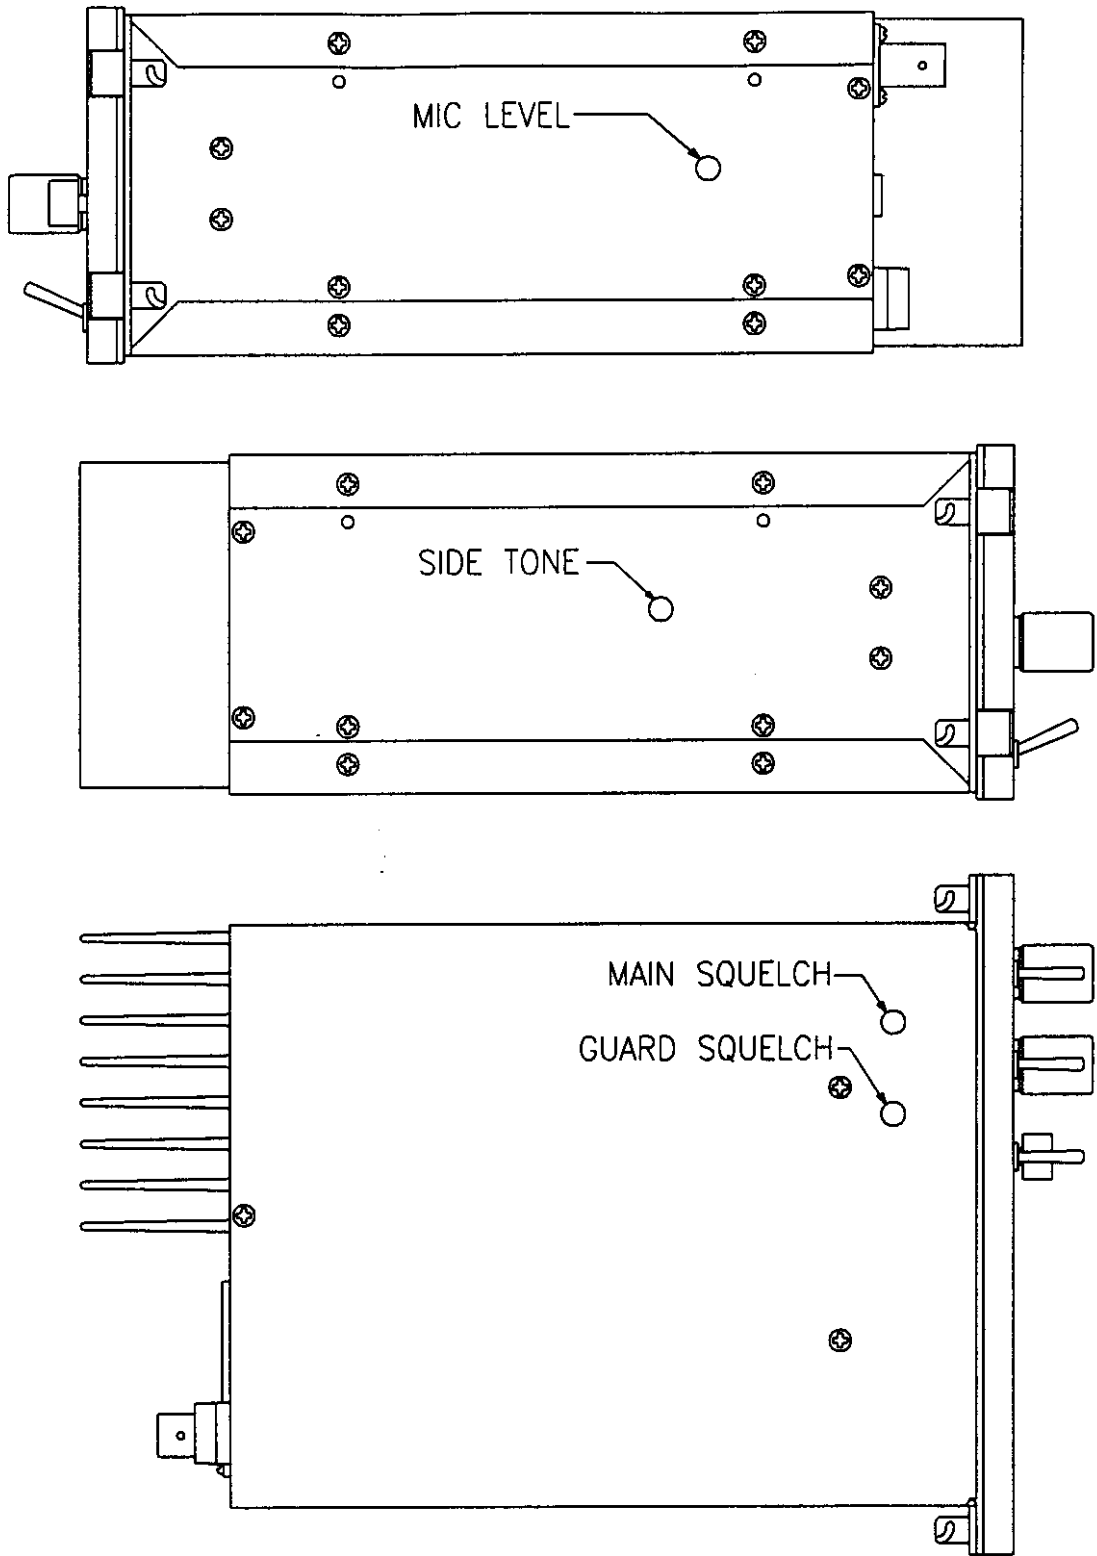

FIGURE 3-4 Microphone and Sidetone Level, Main and Guard Squelch Adjustment Access Holes
3. Adjust the microphone level potentiometer (R8 on MCU module) through the access hole located on the right side of the chassis (see Figure 3-4) to produce a 2.4 KHz deviation.
3. Adjust the sidetone level potentiometer (R37 on MCU module) through the access hole located on the left side of the chassis (see Figure 3-4) to produce a 0 dBm (0.774 VRMS) 600 ohm audio output.
3. If not, re-adjust main receiver squelch potentiometer, R3 through the access hole located on the bottom of the transceiver chassis (see Figure 3-4).
4. Repeat the above procedure to adjust the guard receiver squelch setting using guard receiver squelch adjustment potentiometer, R4 (see Figure 3-4).